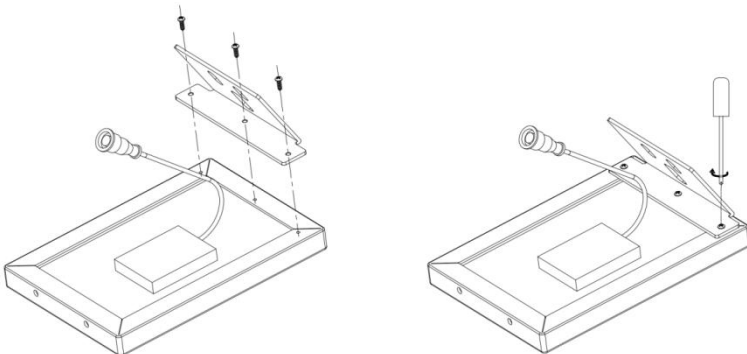

Figure 13
- a) Use a screw driver to assemble the metal holder on back of solar panel as shown in Figure 13.